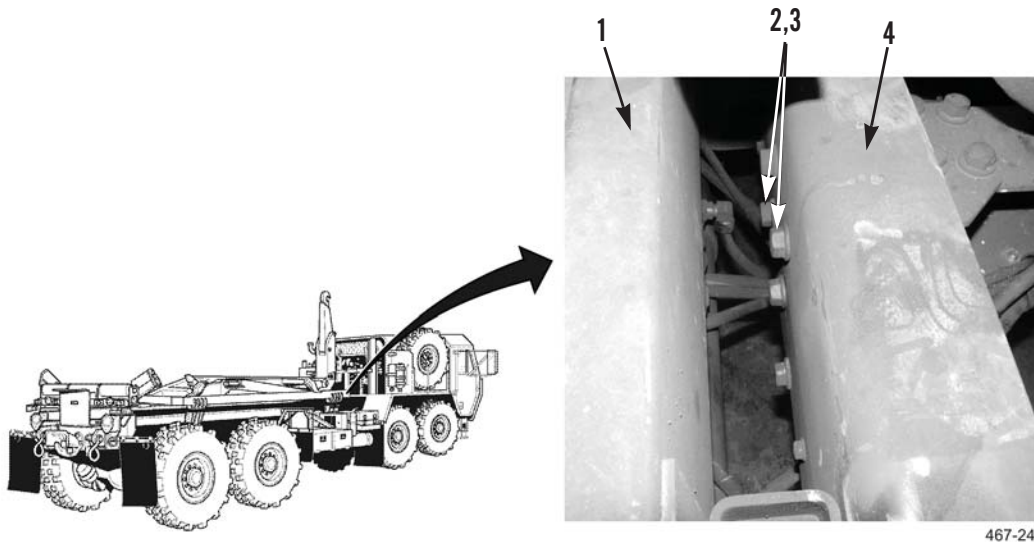

Figure 14. Bolt Removal.
2. Remove two bolts (Figure 14, Item 2) and nuts (Figure 14, Item 3) from right side frame (Figure 14, Item 4) behind battery box (Figure 14, Item 1). Set aside for reinstallation.